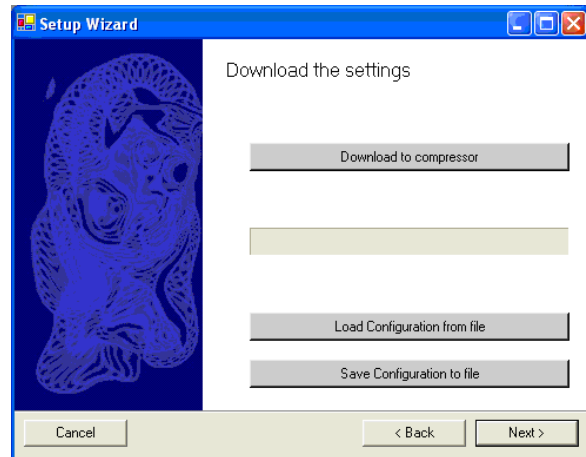

Figure 33 Download Settings Screen
1. Click the “Load configuration from file” button; refer to Figure 33.